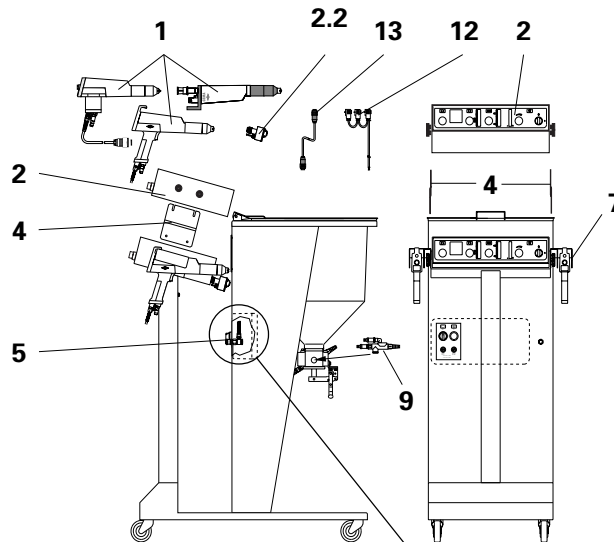

Figure 10
2. Fit the two air connection rings (a) and gaskets (c) according to Fig. 10 on to the double air connection adapter (b) and screw it into Main compressed air input connection on the hopper support panel (see also "Spare Parts List" on page 32, Fig. 23).